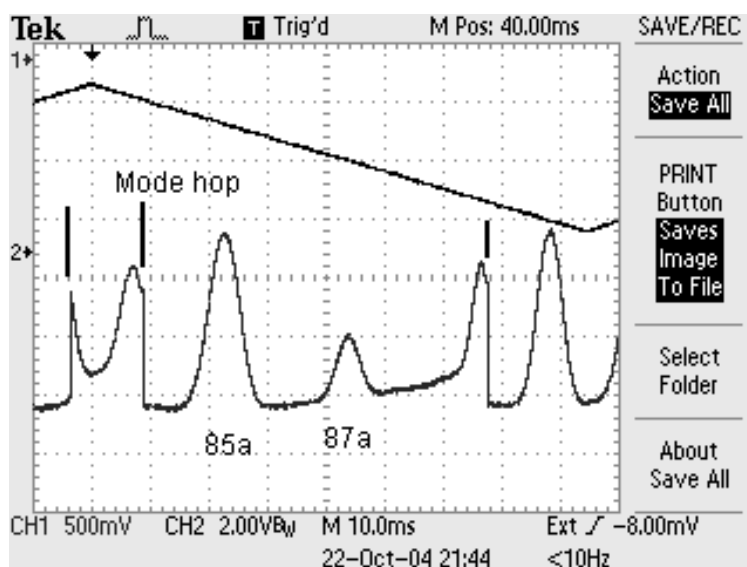

Figure 10: Scan improved by adjustments to laser current and piezo DC level.
2. You may notice a few “extra” features at the ends of a scan right before a mode hop. These feature look like (and are) replicas of the strong 85b and 87b absorptions and appear near where you would expect to find the 87a absorption. The “extra” features are associated with relaxation oscillations in the diode laser. (See Diode Laser Physics Section). By reducing the laser current and adjusting the Piezo DC LEVEL, you should be able to get a nice scan showing the 85a and 87a features. This is shown in Figure 10.